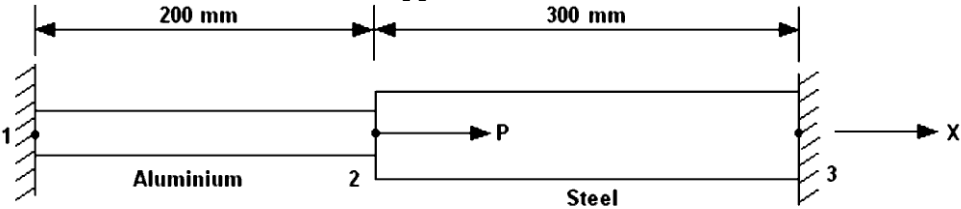

Figure 3
- (c)** Axial load $P = 300 \text{ kN}$ is applied at 20° C to the rod as shown in Figure 3. The temperature is then raised to 60° C . The coefficient of thermal expansion for Aluminium is 23×10^{-6} per $^\circ \text{C}$ and Steel is 11.7×10^{-6} per $^\circ \text{C}$. $A_{\text{Al}} = 900 \text{ mm}^2$, $A_{\text{Steel}} = 1200 \text{ mm}^2$, $E_{\text{Al}} = 70 \times 10^9 \text{ N/m}^2$, $E_{\text{Steel}} = 200 \times 10^9 \text{ N/m}^2$. Using FEM, Determine the nodal displacement and element stresses and the reaction forces at the supports. **07**